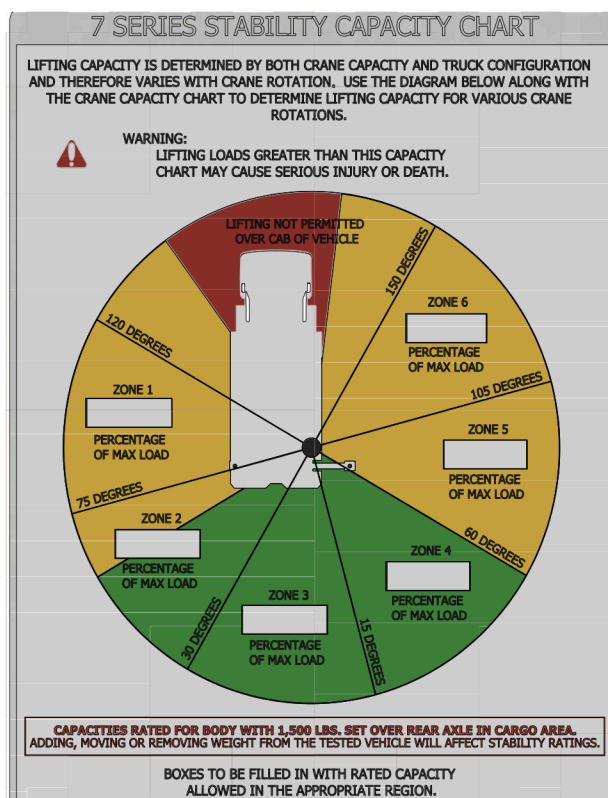

Figure 1-2.
2. Place the crane in the Zone 1 position (see Figure 1-2).
4. If the crane is stable with full extension, 100% can be written in the data box for Zone 1 (see Figure 1-2).
8. Record the percentage of rated capacity in the data box for Zone 1 (see Figure 1-2). This is the revised load capacity for this zone due to stability of the service truck.